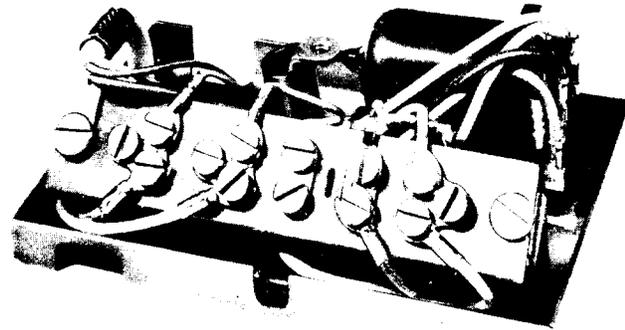

Fig. 3—74-Type Connecting Block With New Cord Stay Arrangement and Screw-Mounted Terminal Strip
3.01 The 74-type connecting block may be mounted on all types of surfaces. Backboards should be used only when mounting on damp walls and when use of a backboard will facilitate installation. Provision is made in the base of the connecting block for entrance of inside wiring and cords with winged stays (Fig. 2). Cords with loop stay hooks are fastened under the cover screw or on terminal strip (Fig. 3). Terminate conductors of inside wire and cord in accordance with connection section for the telephone set.